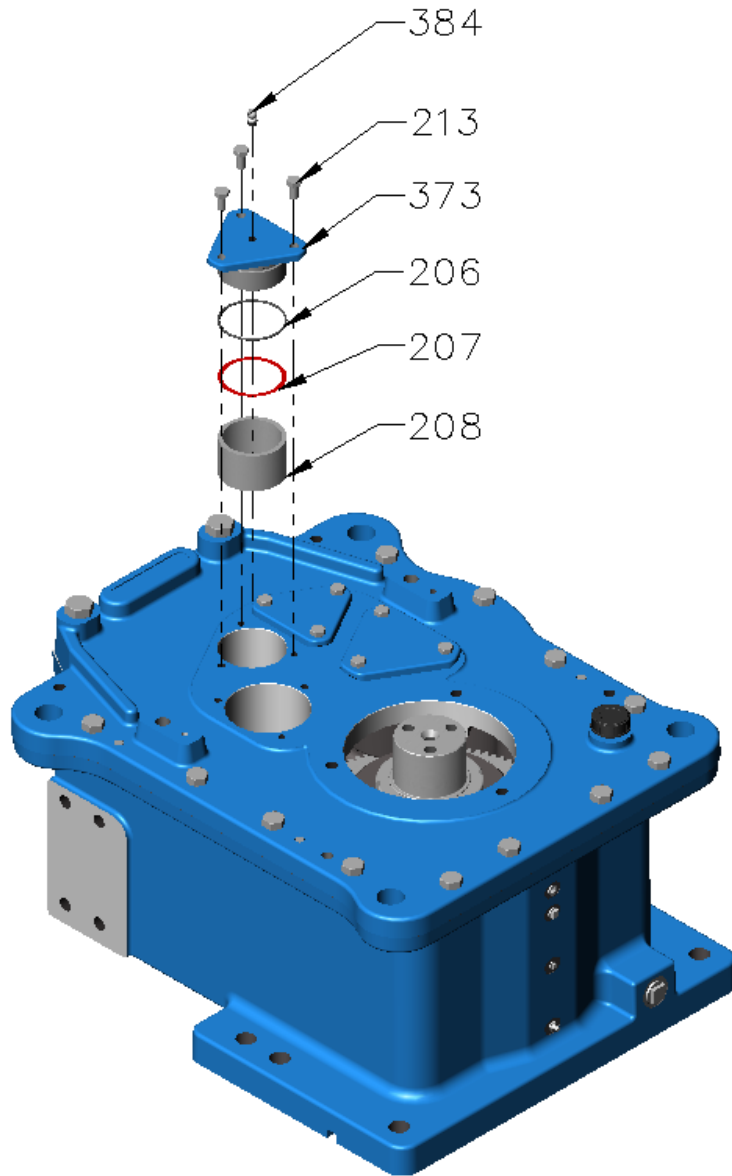

Figure 28 – First Intermediate Cap
- V. First intermediate cap shim selection (refer Figure 28).
- (1) Measure the distance ' D_c ' from the seating surface of the cap to its bottom.
- (2) Measure the depth of the bore ' D_b ' from the seating surface of the cap to the bearing.
- (3) Measure the height of the bearing spacer bore ' D_s '.
- (4) **Number of shims required = $(D_b - (D_c + D_s)) - 0.002$** ". Select appropriate shims set [207].
- W. At first intermediate shaft, install following items (refer Figure 28):